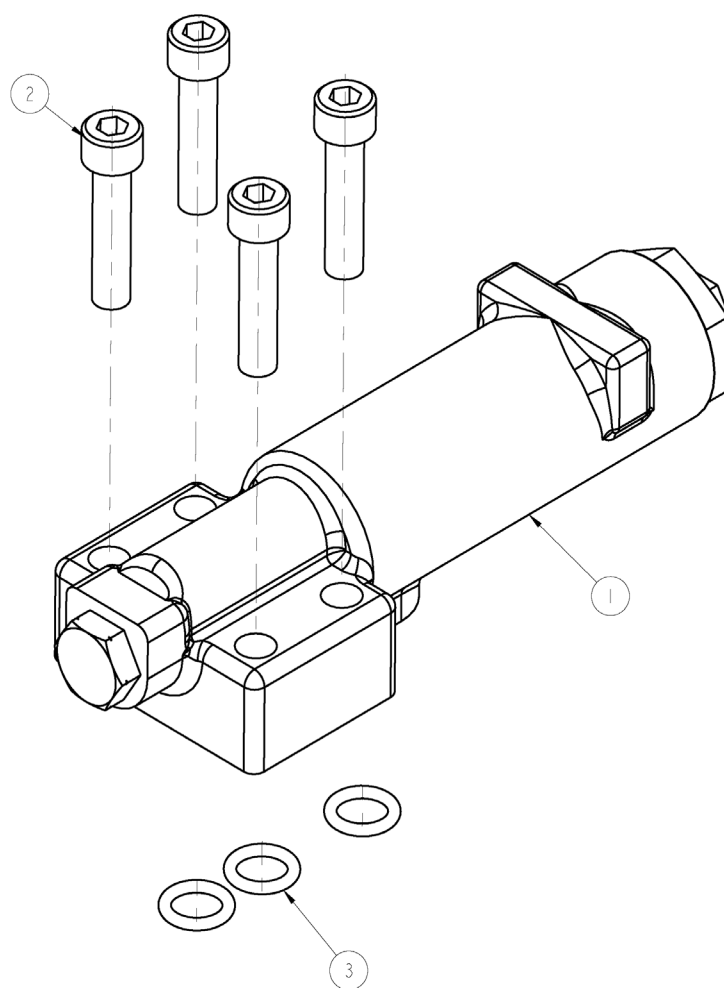

Figure 18
- 3. Dismantle the screw plug assembly (Figure 18, items ⑨ ⑩).
- 4. Remove the pressure valve core (Figure 18, item ②).
- 5. Remove the assembly of the screw plug assembly (Figure 18, items ⑥ and ⑤), the adjusting rod (Figure 18, item ⑦) and the lock nut (Figure 18, item ⑧).
- 6. Take out the pressure spring (Figure 18, item ④) and the two spring seats (Figure 18, item ③).
1. Insert the pressure valve core (Figure 18, item ②).
2. Install the screw plug assembly (Figure 18, ⑨ ⑩), and tighten it with a torque of 29-32 Nm.
3. Install the pressure spring (Figure 18, ④) and two spring seats (Figure 18, ③).
4. Install the assembly of the screw plug assembly (Figure 18, ⑥ ⑤), the adjusting rod (Figure 18, ⑦) and the locknut (Figure 18, ⑧), and tighten the screw plug with a torque of 97-106 Nm.